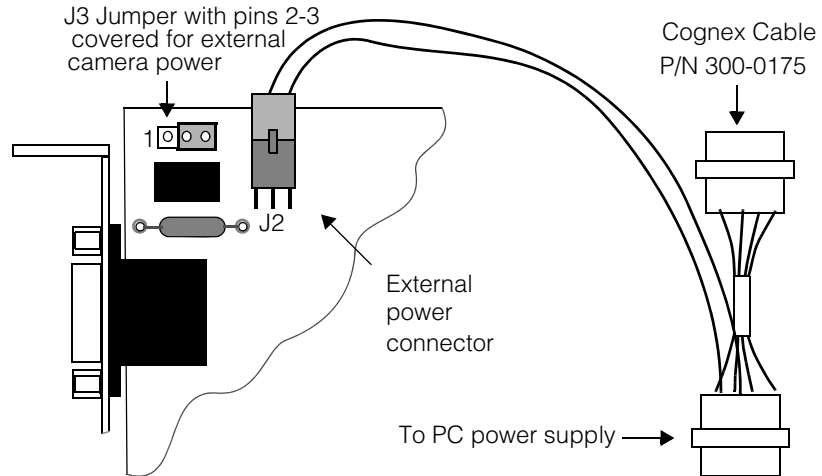

Figure 3. JP1 jumper position and power cable for external camera power
Figure 3 shows the J3 jumper position for external 12 V power. The total available power with the jumper in the 2-3 position is 750 ma for *each* installed camera and 3.5 A total for all cameras and light modules.
6. Locate the 8100's external +12 V power connector at J2, as shown in Figure 3 on page 13. Connect the +12 V power cable adapter (P/N 300-0175) to your PC's power supply and to the connector at J2. Both connectors are keyed, and can only be inserted one way.